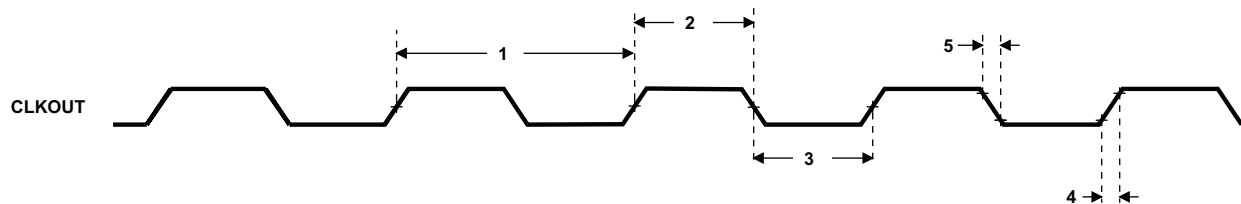

Figure 5-17. CLKOUT Timing
Table 5-14. Switching Characteristics Over Recommended Operating Conditions for CLKOUT^{(1) (2)} (see Figure 5-17)